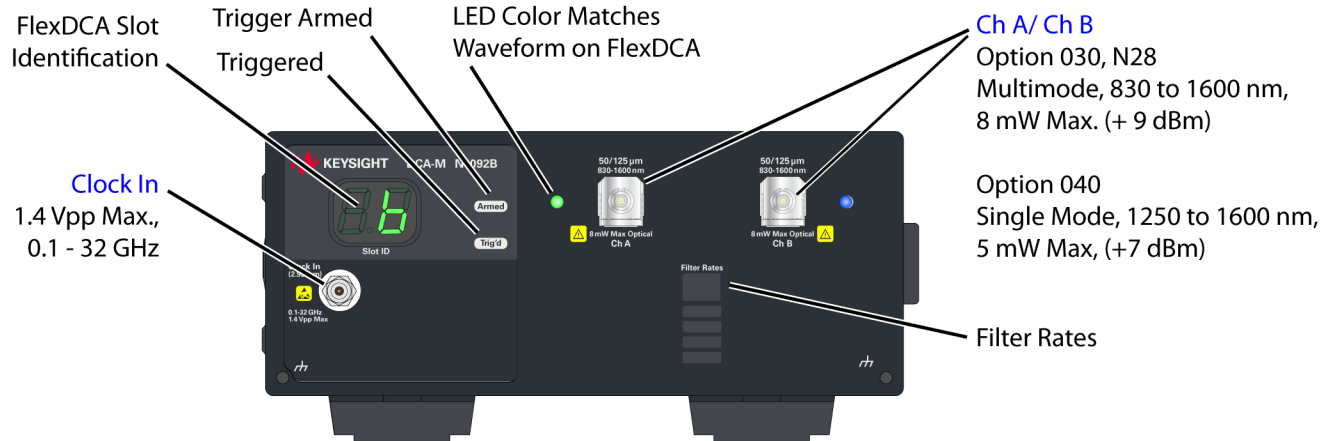

Figure 9. N1092B Front Panel
- *Figure 9, N1092B Front Panel*, on page 33